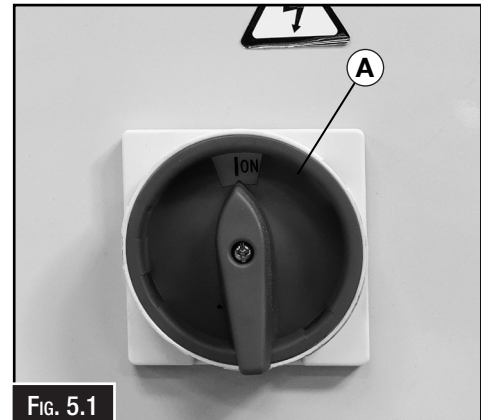

Fig. 5.1
- A Main Isolating Switch:** Isolates the power from the machine. (Fig 5.1)